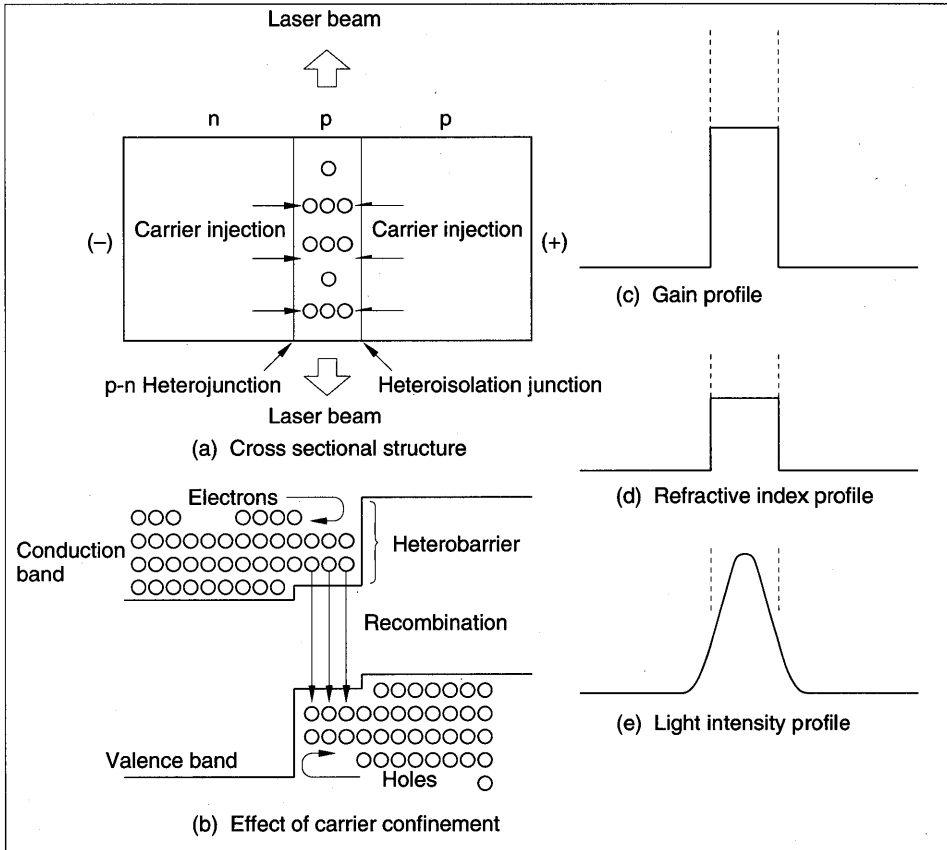

Figure 2-1: Operation Principles of Double-heterojunction LD
The p-type active layer, in which stimulated emission enforces optical amplification (figure 2-1 (a)), is processed first. The p-n junction is made here for injecting minority carriers (the p-n heterojunction). With forward current applied to the junction, electrons in n-type region are injected into p-type region. With a p-type semiconductor of wide band gap on the other side of the p-n junction (heteroisolation junction), the injected carriers are mostly confined within the p-type active layer. This carrier confinement makes population inversion occur easily, increasing the light emission intensity.
confines the generated light within the GaAs active layer. The light penetrating into the  $\text{Al}_x\text{As}$  layer is not absorbed because of its wide band gap. So laser oscillates effectively there (figure 2-1). The thinner GaAs layer can make do with less threshold current density to achieve laser oscillation. At present, a threshold current density of as low as 1 to 2  $\text{kA/cm}^2$  can be achieved, realizing a stable continuous oscillation (CW) at room temperature.